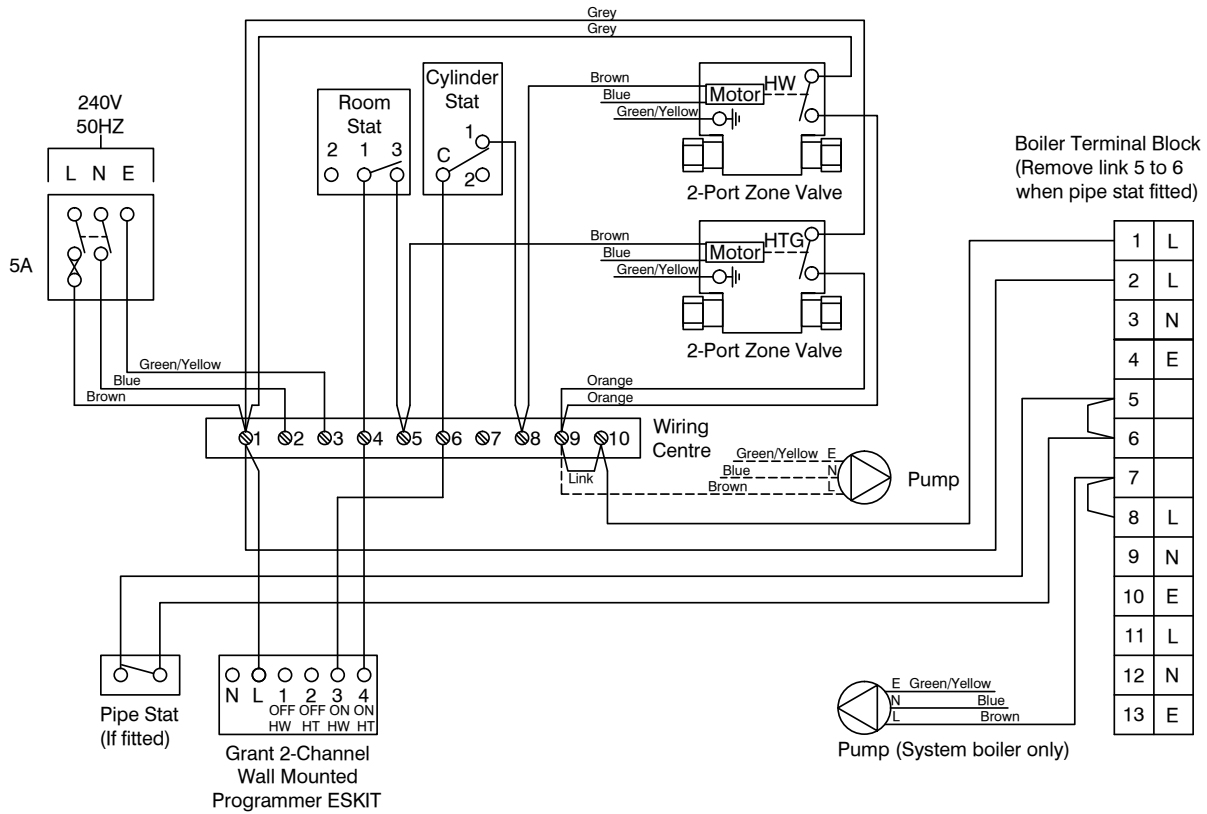

Figure 8-1: CH and HW controlled by two 2-port zone valves
Refer to Figures 8-1 to 8-4 for typical control system wiring diagrams.
It is recommended that the boiler should be connected to a switched mains power supply from a programmer or control system. If a Grant remote programmer is used, a permanent 240 V mains supply (fused at 5 Amp) must be taken to the boiler. A three core cable is required to connect the boiler terminal block to the live supply. Refer to Figures 8-1 to 8-2 for typical control system wiring diagrams.
3. Refer to Figures 8-1 to 8-2 for a typical control system wiring diagrams.